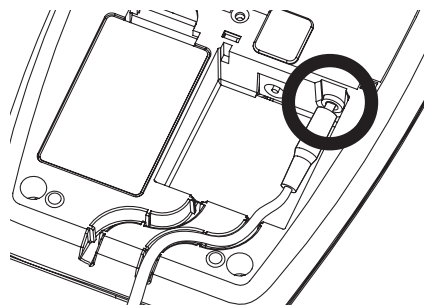

fig1
1. Plug the Vibrating Pad connector into the Strobe (as shown in fig1) Route the wires through the wire guide.